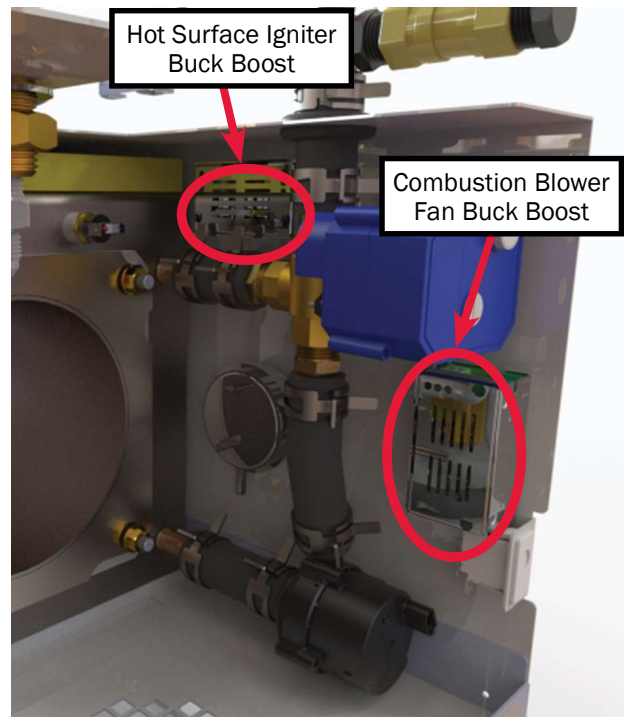

Figure 80
3. Locate the buck boost module to be replaced. Reference Figure 80.